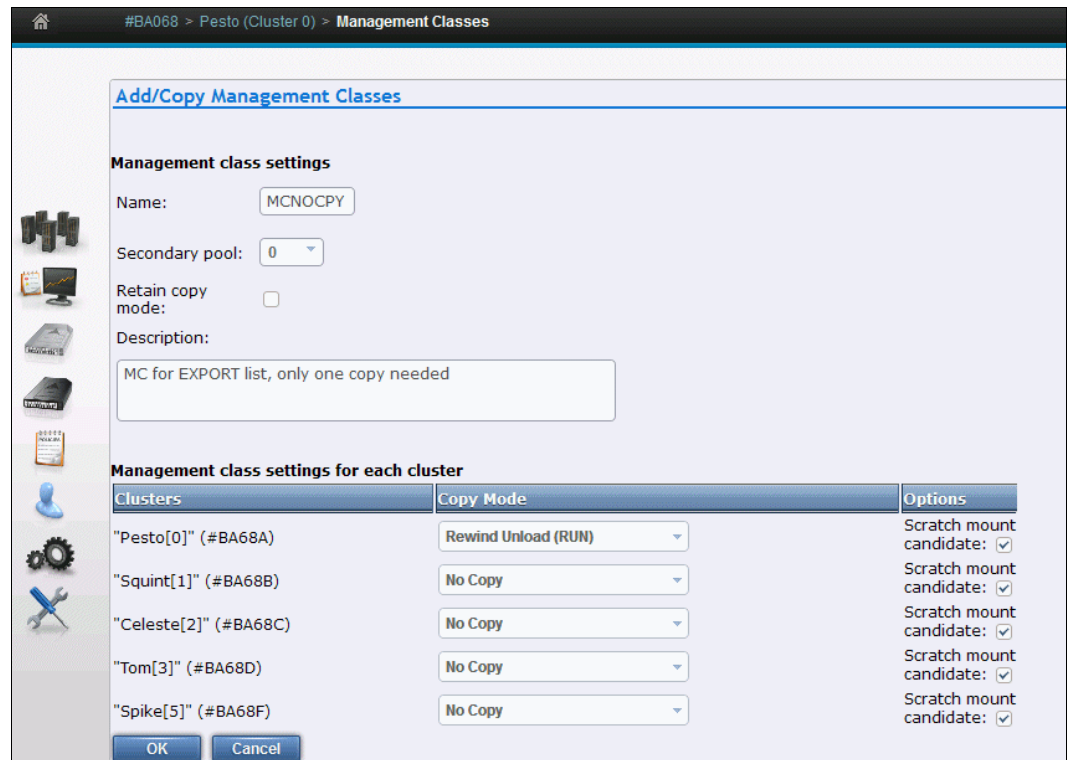

Figure 15-3 Management Class settings for the export list volume
Figure 15-3 shows the setting of an MC on the MI for the export list volume in a multi-cluster grid configuration. RN means one copy locally at RUN (R) and no copy (N) on the other cluster.